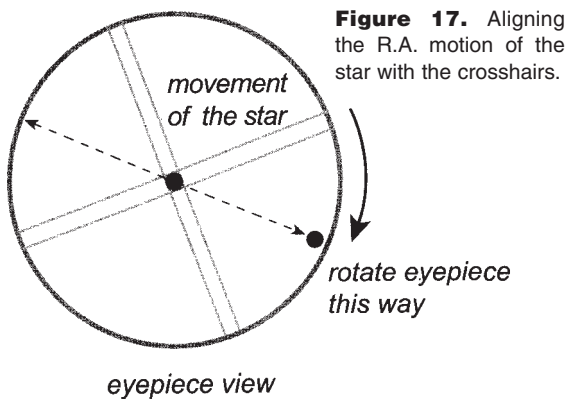

Figure 17. Aligning the R.A. motion of the star with the crosshairs.
4. Keep moving the telescope about the R.A. axis back and forth to keep the star within the eyepiece field of view. Rotate the eyepiece in the focuser (or diagonal) until the movement of the star becomes parallel to one of the illuminated crosshairs (Figure 17). This crosshair will represent R.A. movement in the course of this procedure, and the perpendicular crosshair will represent Dec. movement. Tighten the set screws to secure the eyepiece in position. Make sure the eyepiece will remain stationary while the telescope is moved.